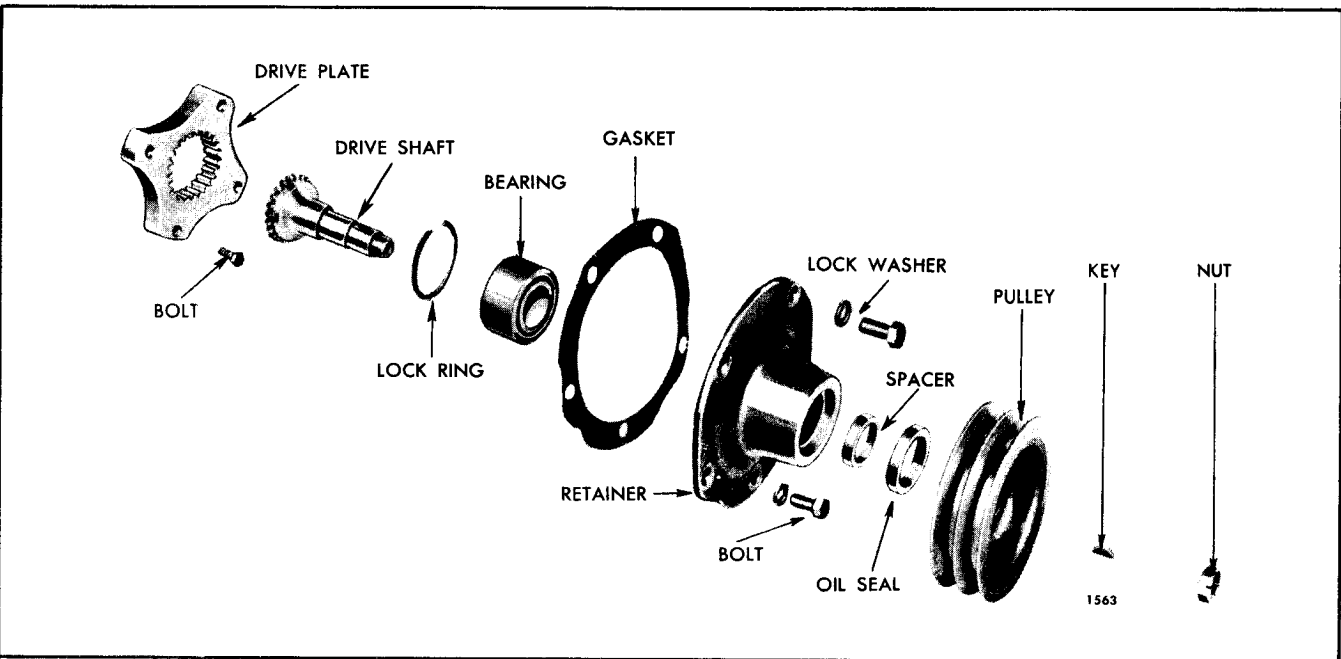

Fig. 5 - Components of Accessory Drive for Belt-Driven Accessory (Drive Plate Type)
3. Remove the bolt and washer (Fig. 4), or nut (Fig. 5), retaining the pulley on the drive shaft.
6. Remove the accessory drive shaft, drive plate and spacer (Fig. 5), or drive hub (Fig. 4), in a manner similar to that outlined in Step 5 under removal of the direct gear-driven type accessory drive.
7. Remove the snap ring and ball bearing from the accessory drive shaft retainer assembly shown in Fig. 5.
Inspect the ball bearing used to support the accessory drive shaft shown in Fig. 5. Wash the bearing in clean fuel oil and dry it with compressed air. *Shielded bearings must not be washed;* dirt may be washed in and the cleaning fluid could not be entirely removed from the bearing. Wipe the outside of the bearing clean, then hold the inner race and revolve the outer race slowly by hand. If the bearing is worn or does not roll freely, replace the bearing.
4. If the accessory drive shown in Figs. 5 or 6 is used, assemble as follows: